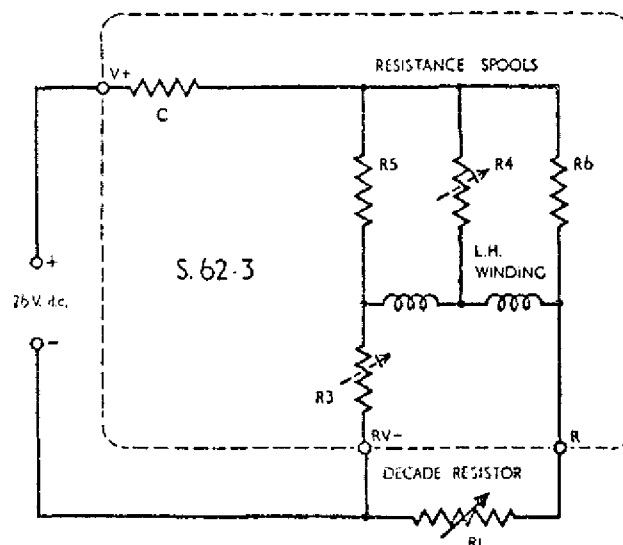
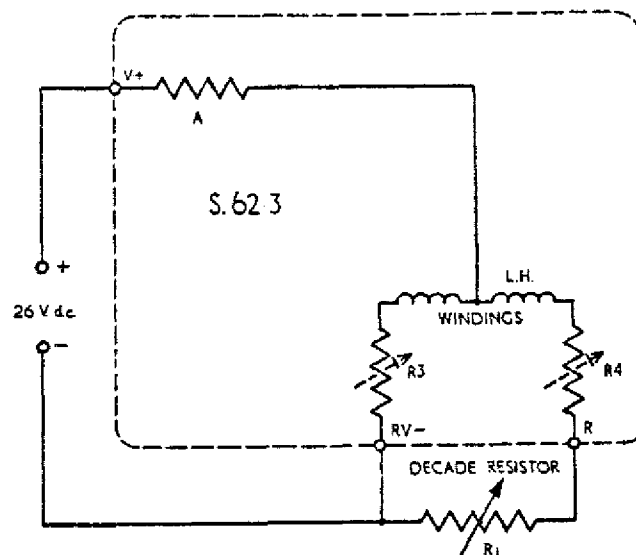
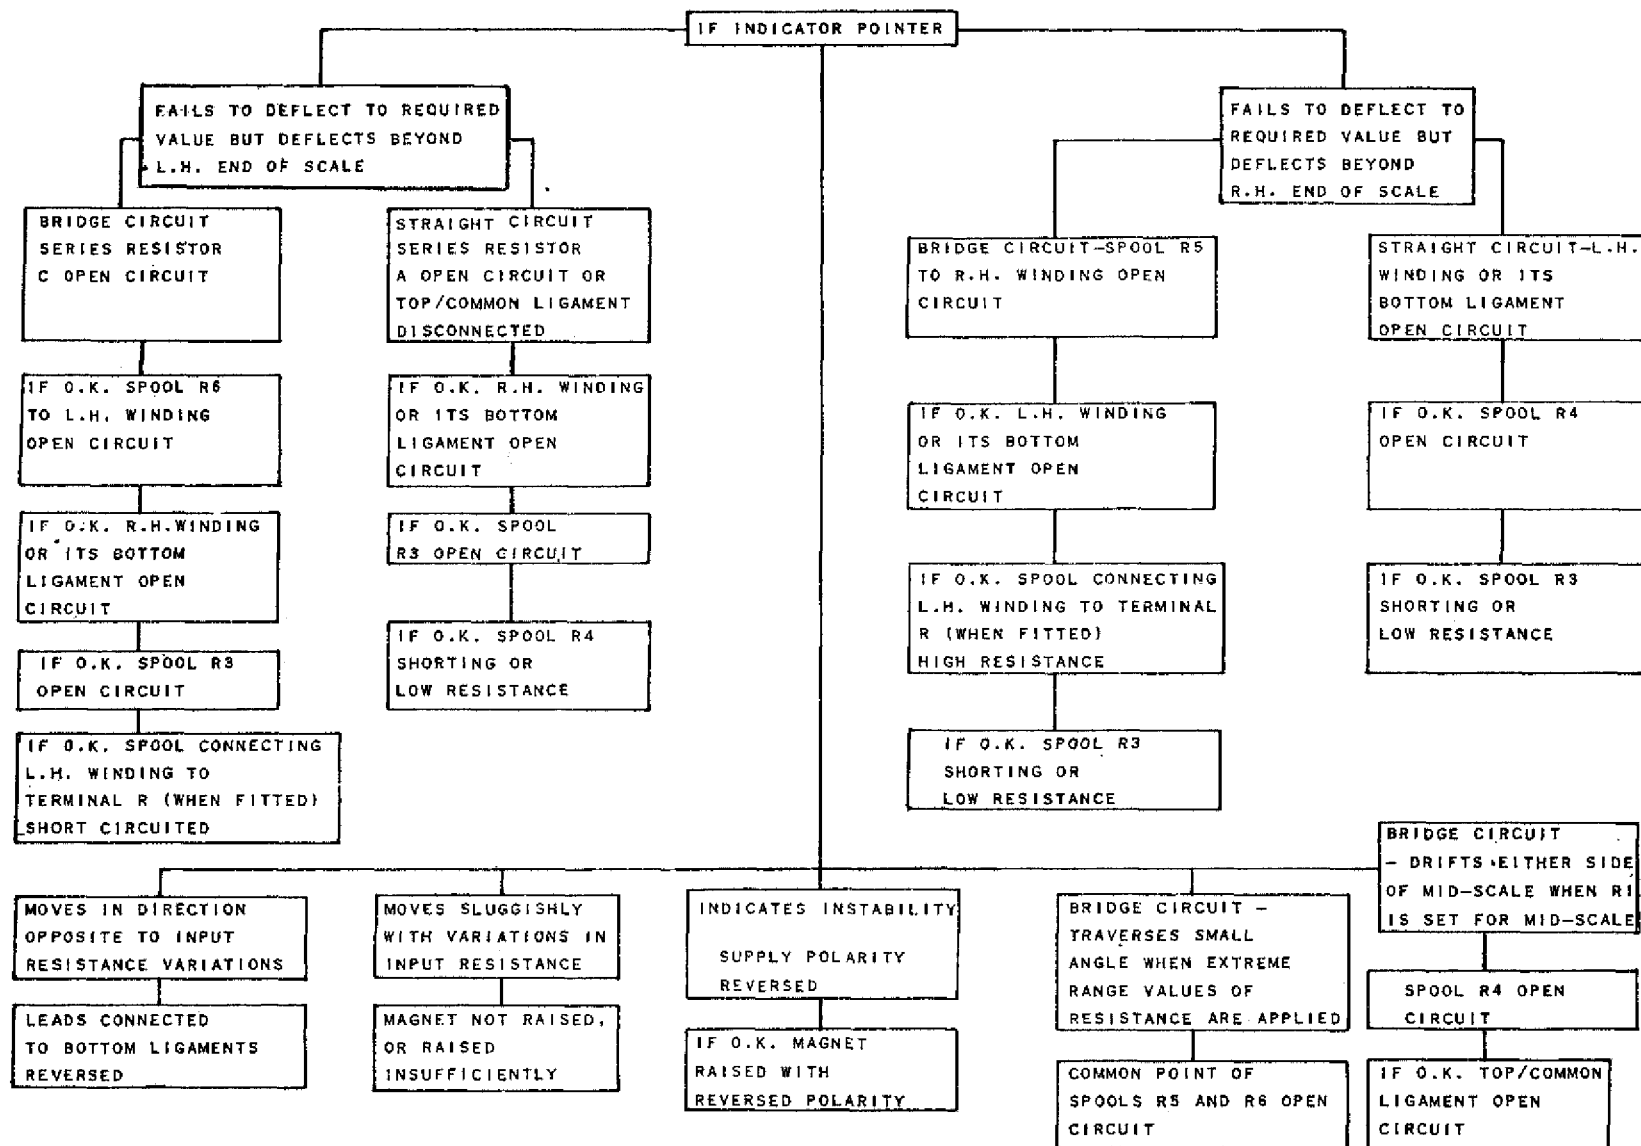

Fig. 3.
Fig. 4.
Fig.5. Trouble shooting chart
- (1) Replace magnet (23).
- (2) Slide the assembled movement onto the pillars of base (47) and secure with lockwashers 16 (2-off), screws 15 (2-off), lockwashers 18 (2-off) and 8 B.A. nuts 17 (2-off).
- (3) Place magnet shield (14) and scale (13) in position.
- (4) Assemble pointer stops 12 (2-off) and replace lockwashers 11 (2-off) and screws 10 (2-off).
- (5) Connect the indicator as shown in Fig.3. for a bridge circuit or Fig.4. for a straight circuit, the two decade resistance boxes replace the spools which are adjusted to obtain the correct scale length. Another decade resistance box is used to simulate the resistance of the external resistance bulb. Adjust the two spool boxes to the nominal value of the spools. Apply 26 volts d.c. and adjust the external resistance box to bring the pointer to approximately the mid-scale position. Then balance the movement thus.
- (1) Connect three decade resistance boxes as shown in Fig.3.
- (2) Adjust resistance box R3 to the nominal value of the spool.
- (3) Set external resistance box R1 to the equivalent resistance of the bulb's mid-scale value given in the addendum for the appropriate variant.
- (4) Apply 26 volts d.c. to V and RV-.
- (5) Adjust resistance box R4 to give a pointer indication of approximately mid-scale.
- (6) Adjust the resistance box R1, first to the lowest and then to the highest value of resistance for which the indicator is designed. These values are contained in the indicator's calibration table in the addendum at the rear of this manual.
- (7) If the pointer deflects over too wide an angle reduce the value of resistance box R4, if the deflection is over too narrow an angle increase the value of resistance box R4.
- (8) Changing the value of R4 shifts the whole scale arc either to the right or to the left, this can be remedied by re-adjusting resistance box R3.
- (9) Repeat operations (6), (7) and (8) until the correct scale angle is obtained.
- (10) When these adjustments have been satisfactorily completed, adjust the resistance of the spools to correspond to within 0.25% of the values of resistance boxes R3 and R4; connect the spools into the indicator circuit.
- (1) Connect three decade resistance boxes in place of the spools to be adjusted, and the external resistance bulb as shown in Fig. 4.
- (3) Set resistance box R1 to the equivalent resistance of the bulb's mid-scale value given in the addendum for the appropriate variant.
- (4) Apply 26V d.c. to V and RV-.
- (6) Adjust the external resistance box first to the lowest, and then to the highest value of resistance for which the indicator is designed. These values are given in the indicators calibration table in the addendum at the rear of this manual.
- (7) If the pointer deflects over too wide an angle increase the value of resistance box R4, and if the deflection is over too narrow an angle decrease the value of resistance box R4.
- (8) Changing the value of R4 shifts the whole scale arc to the right or to the left, this can be remedied by re-adjusting resistance box R3.
- (10) When these adjustments have been satisfactorily completed, adjust the resistance of the spools to within 0.25% of the values of the resistance boxes R3 and R4; connect the spools into the indicator circuit.
Connect the indicator as shown in Fig.3. for a 'Bridge circuit' or Fig.4. for a 'Straight circuit'. Check the calibration against the table in the addendum for the appropriate variant and if necessary recalibrate to obtain the correct indication.
#### 9. Trouble shooting (Refer to Fig.5.)
- (1) Check faults against trouble shooting chart (Fig.5.) and adopt the procedure suggested.
- (2) After correction of fault retest the indicator.
*NOTE: When using the trouble shooting chart, for bridge circuit indicators refer to Fig.3 and for straight circuit indicators refer to Fig.4.*